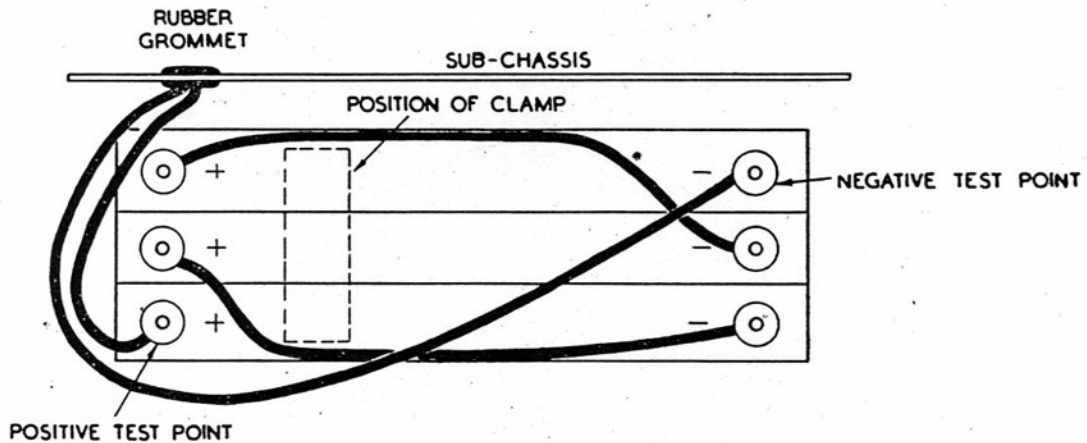

Fig. 7.—Connections to H.T. battery
cut flush after insertion in the vents to permit the batteries to slide under the holding ledge. It may also be necessary to cut down a further row of vent plugs in the way of the clamp (1, fig. 4). Before these batteries are inserted in the receiver they must be shaken to remove any excess of moisture, which would corrode the receiver chassis. A drawing of the connections to the battery terminals is given in fig. 7. The run of the leads must be arranged as shown to ensure that they are not trapped under the felt pad of the top battery clamp when this is replaced.
38. The H.T. battery must be renewed after operational use, or when its voltage on load has fallen to 42, or three months from the time of installation, whichever may occur first. To measure the H.T. voltage, remove the chassis assembly from the case, switch the set on, and connect a high-resistance voltmeter across the positive and negative test points shown in fig. 7.